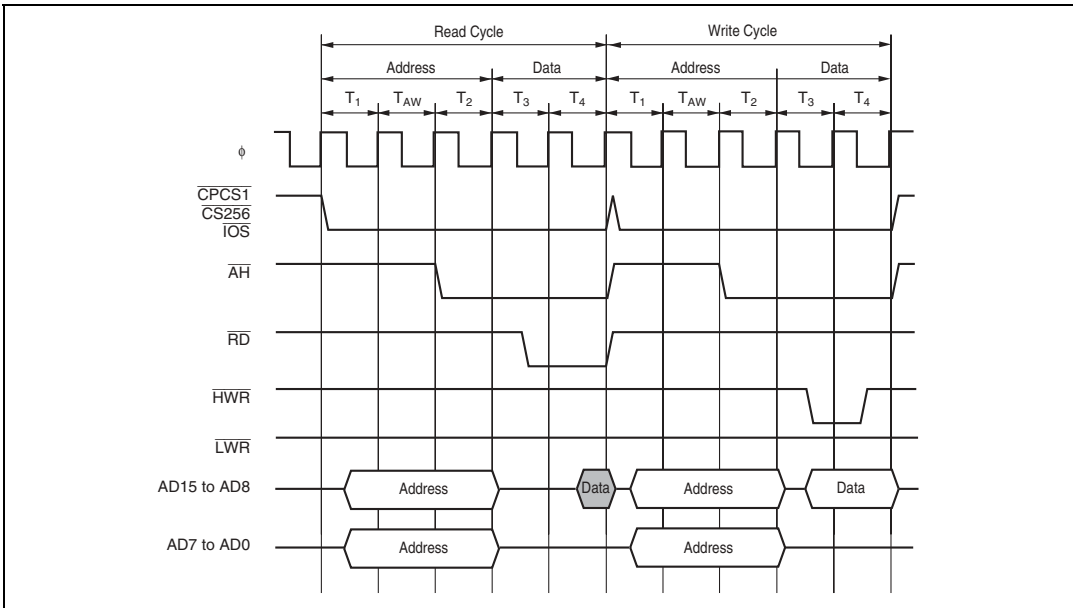

Figure 6.16 Bus Timing for 16-Bit, 2-State Access Space (1) (Even Byte Access)
(3) 16-Bit, 2-State Data Access Space: Figures 6.16 to 6.21 show bus timings for a 16-bit, 2-state access space. When a 16-bit access space is accessed, the upper half (AD15 to AD8) of the data bus is used for even addresses, and the lower half (AD7 to AD0) for odd addresses. Wait states cannot be inserted.